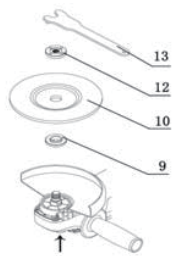

Figure 3
3)Fitting the grinding disc or cutting disc: (Figure 3 and Figure 4)
A.Place the inner flange (9) over the spindle making sure the fit is tight;